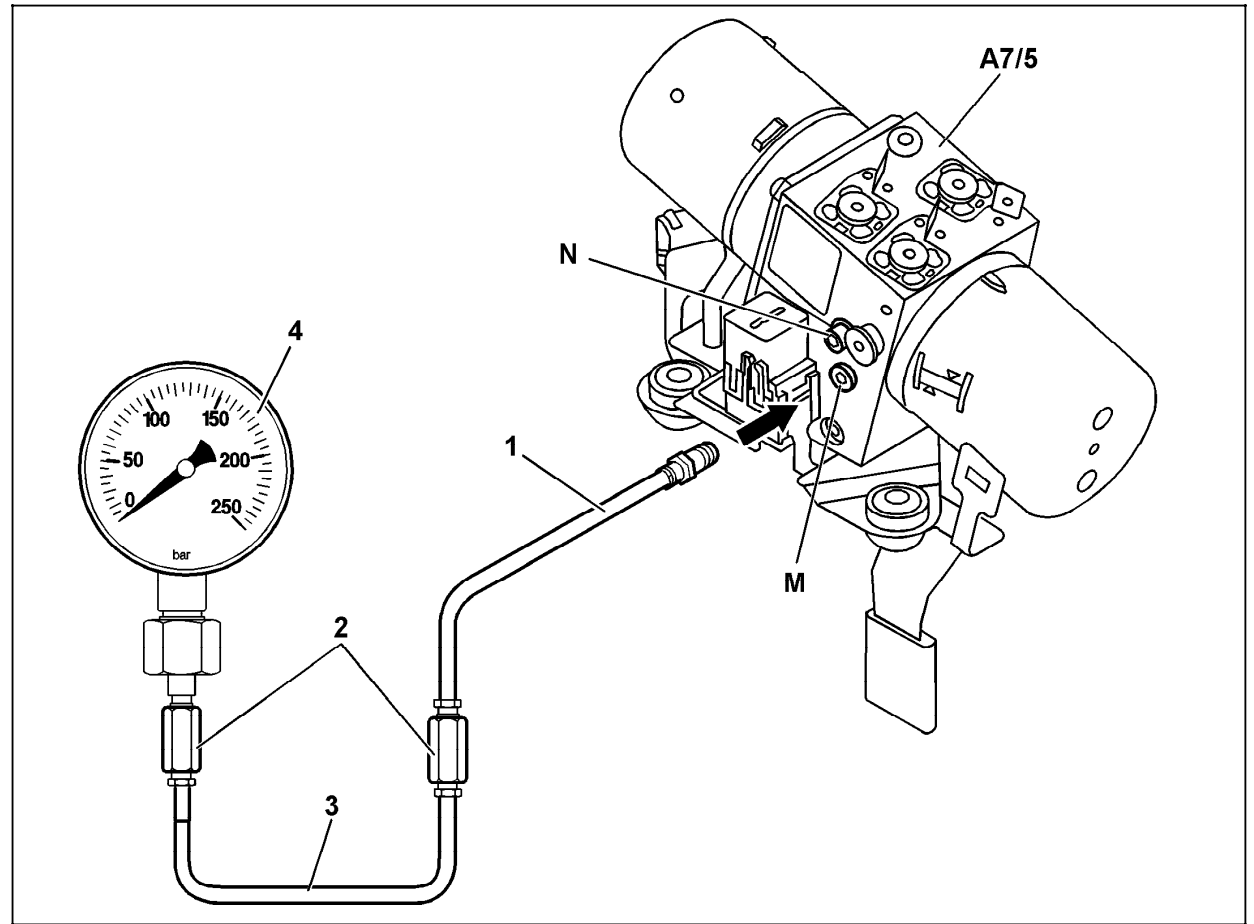

Figure 3
- A. Connection of test equipment to hydraulic unit (Figure 3).
In order to move the retractable hardtop manually, the emergency operation relief valve on the hydraulic unit must be open all the way to a stop position using the allen wrench provided with the vehicle, refer to "N" in Figure 3). The emergency operation relief valve must be then closed (**tightening torque approx.: 3 Nm**).
If the retractable hardtop comes to the end position (open/stored or closed) by pressing the retractable hardtop switch, the hydraulic pressure must be released from the system before disconnecting any hydraulic lines. To achieve that, the ignition switch must be in the OFF position and the relief valve on the hydraulic unit ("N", Figure 3) must be open all the way to the stop position. The pressure should drop in a short time, as observed on the pressure gauge. Place a shop towel around the hydraulic lines to be disconnected to avoid hydraulic oil spills when removing hydraulic lines. Additionally the ports must be plugged off using the necessary plug. The removed hydraulic lines should be placed in a container as well.